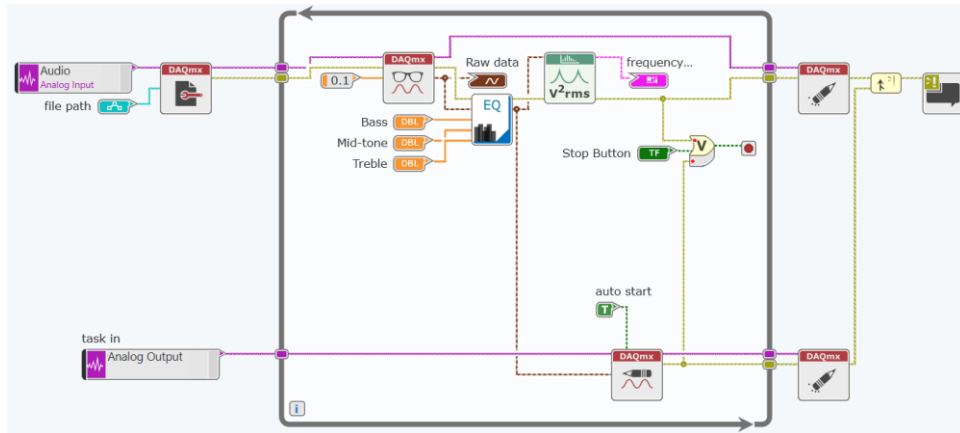

Figure 6-31 Proper task reference and error handling is important in any DAQ application.
- d. Your resulting code should look similar to Figure 6-31.